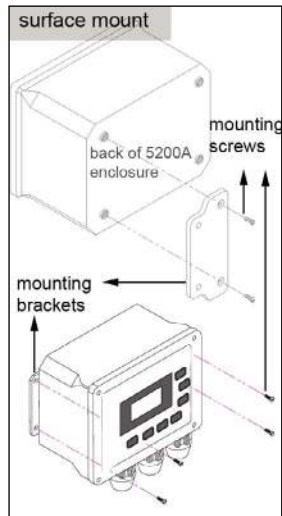

Figure 3.2
1. Fasten the mounting brackets to the back of the 5200A with the mounting screws - figure 3.2.
3. Fasten the 5200A mounting brackets to the mounting surface with the mounting screws provided - figure 3.2. Make sure screws adequately secure 5200A to surface.
2. Fasten the mounting brackets to the back of the 5200A with the mounting screws as shown in figure 3.2.
5. Fasten the mounting brackets to the back of the 5200A enclosure with the mounting screws - figure 3.2, page 28.